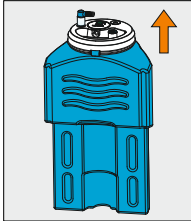
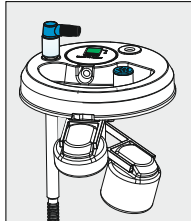
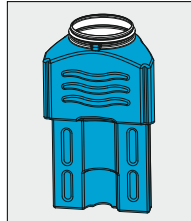
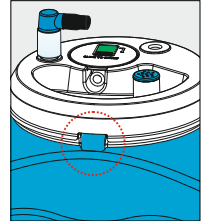

Figure 5
Figure 6
Figure 7
Figure 8
- 2) Use latex or nitrile gloves or wash hands before and after handling water contact parts. Remove cover assembly from the reservoir by pulling upwards (Figure 5). Rinse cover assembly (Figure 6) and reservoir (Figure 7) with clean water and reassemble prior to installation into the frame assembly (Figure 8).